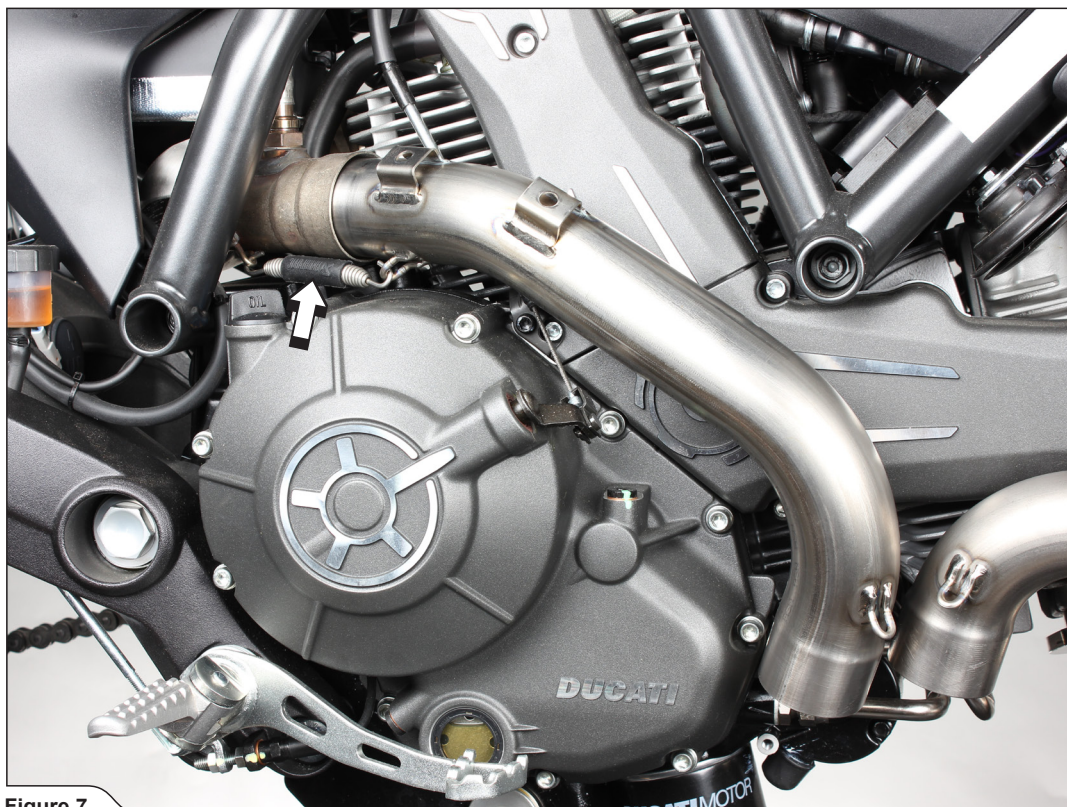

Figure 7
- Slide the rear header into the stock rear pipe and attach the spring from Akrapovič installation kit (Figure 7).